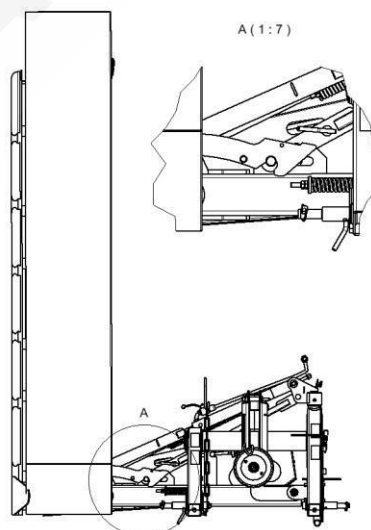

Fig. 7 Transport position
Transport of the machine suspended on the tractor can be carried out only in the transport position (Fig. 7), in which the cutter bar unit is raised up by a hydraulic cylinder and secure with transport lock. The mower is raised on the tractor TPH at a height assuring adequate clearance (min 25cm).
- raise the cutter bar unit into a vertical position using a hydraulic cylinder, raise until the activation of the transport lock as shown in Fig. 7 and Fig. 9,
- ensure that the machine is in the transport position (Fig. 7),